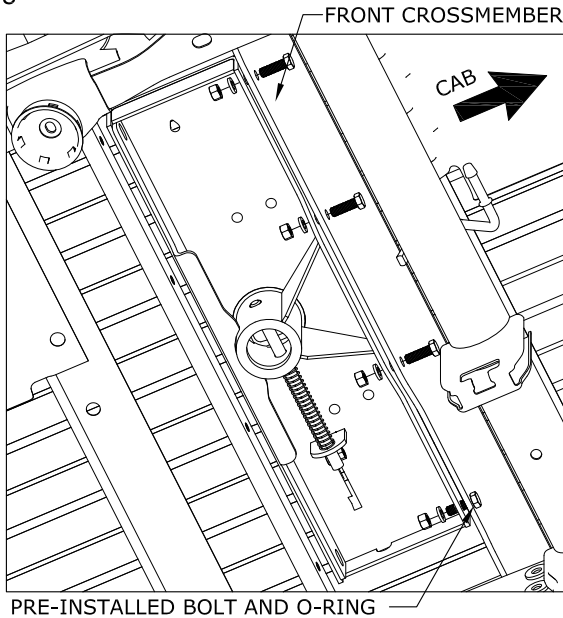

FIGURE B10: View under the center section looking from in front of the axle on the passenger side.
5. **Attach the front cross member to the center.** Slide the front cross member back against the center section so that the bolt installed previously in the front cross member goes into the center section hole directly across from it. Line up the rest of the holes and attach the two members with $\frac{1}{2}$ X $1\frac{1}{2}$ " long bolts, lock washers, and nuts as shown in figure B10. Hand tighten nuts.